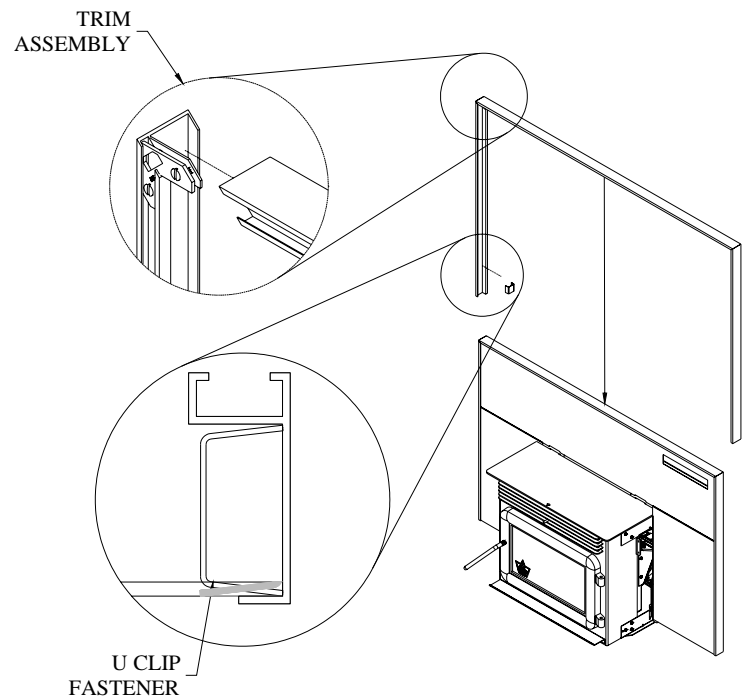

Figure 31
- 7- Assemble the trim kit corners with L brackets and slide it down on the faceplate as shown in Figure 31. Use the U clip fasteners to attach the trims to the faceplate.